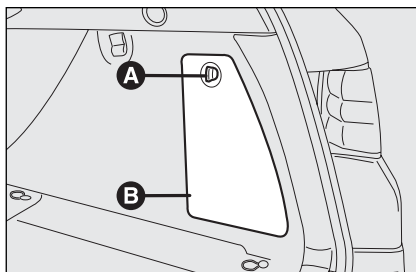

fig. 130
- turn the knob **A**-fig. 130 and open the flap **B** set on the right side of the boot;